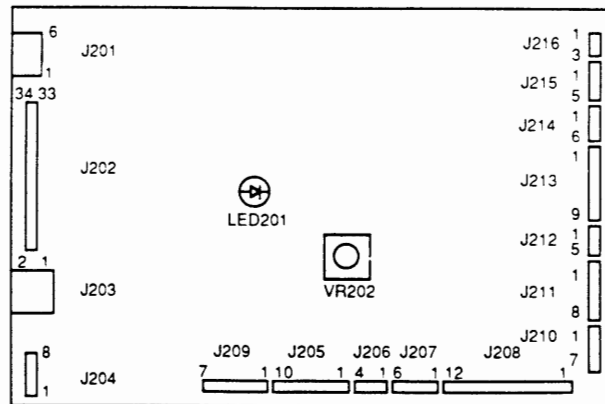

FIGURE 3-3: CONNECTOR LOCATIONS ON THE DC CONTROLLER PCB
6. Disconnect the cable from J209 on the DC Controller board (Figure 3-3).
8. If a new DC Controller board is being installed, turn VR202 (Figure 3-3) all the way counterclockwise, to start with the lowest possible setting.